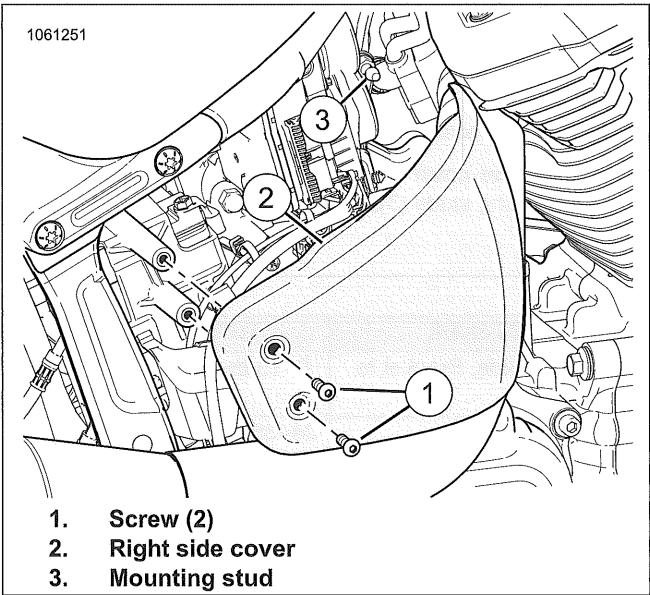

Figure 3-68. Right Side Cover
- 1. See Figure 3-68. Remove side cover.
- a. Remove screws (1).
- b. Pull side cover (2) away to release grommet from mounting stud (3).
- 1. See Figure 3-68. Install side cover.
- a. Align side cover (2) with mounting stud (3).
- c. Install screws (1). Tighten.